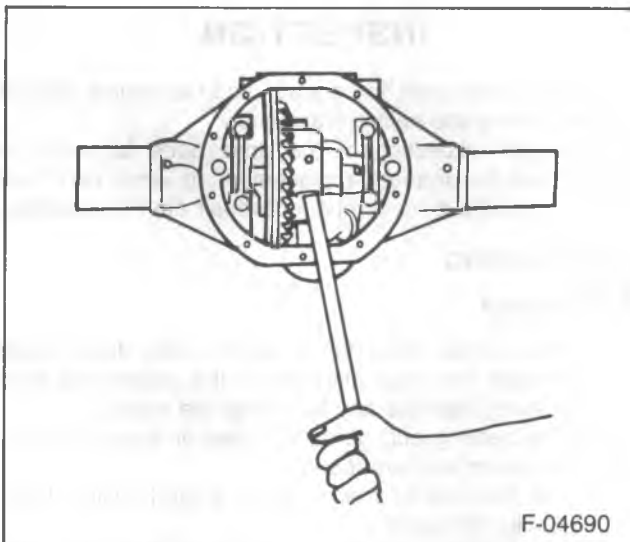
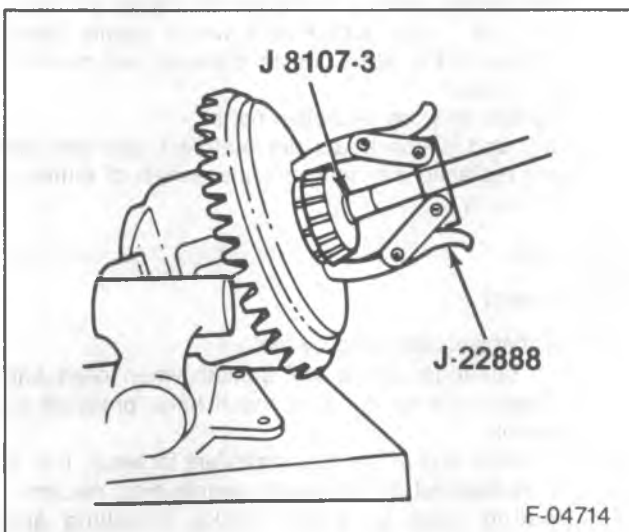

Figure 2—Removing the Differential Case
Figure 3—Removing Differential Side Bearings
11. Differential carrier (27).
- Pry the case from the axle housing at the differential "window" (figure 2).
12. Bearing outer races (21), shims (21) and bearing adjusting nut (17).
13. Differential side bearings using J 8107-3 and J 22888 (figure 3).
14. Ring gear bolts (26).